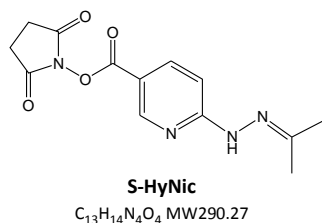

Figure 3: Structure of S-HyNic
Included in this kit are 0.5 mL Zeba Spin Desalt columns (Figure 3) that have a maximum capacity of 130 μ L. Therefore up to 1.3 mg of a 10 mg/mL solution of protein can be desalted. As this kit has been designed for two conjugations, included are four Zeba columns, one to initially desalt the protein and one to desalt and exchange the modified protein into conjugation buffer (see below).
1. Dissolve a vial of pre-weighed 1.0 mg S-HyNic (Figure 3) vial in 100 μ l anhydrous DMF.